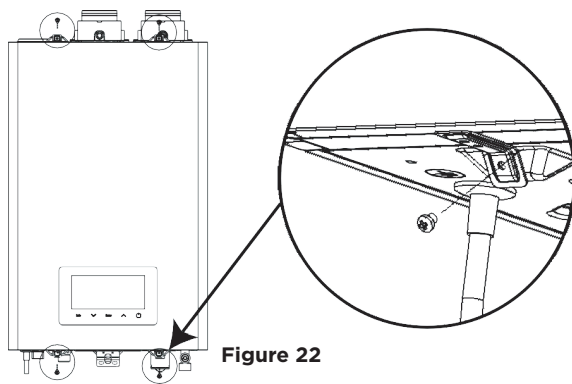

Figure 22
1. Close the manual gas shut-off valve on the gas supply line. (See Figure 22 on the following page)